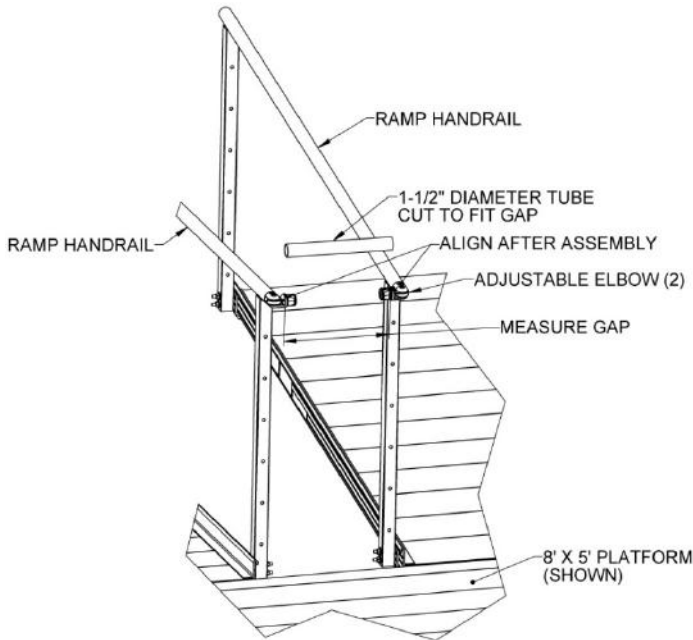

FIG. 5.21
- 5.7.2. Regardless of style, first connect the ramp handrails by installing adjustable elbows in the ramp handrails. Loosen the elbow assembly screws and position the adjustable elbows so they are aligned with the elbow on the opposite side (but do not tighten), and then measure the distance between the two larger round faces (FIG. 5.21).
- 5.7.3. Cut a 1-1/2" diameter round tube to the measured gap (FIG. 5.21)